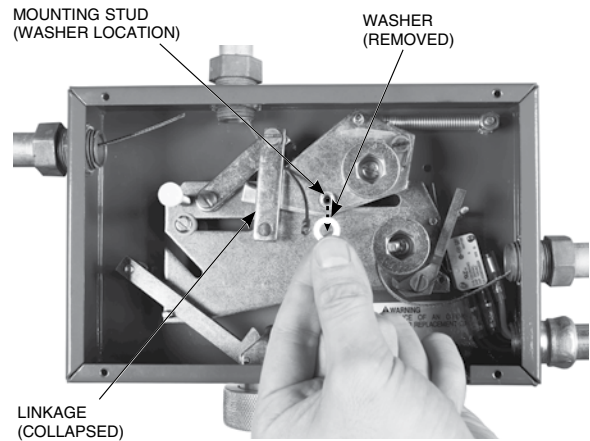

FIGURE 15
10. After the linkage is collapsed, remove the washer from the mounting stud. Dispose of washer. See Figure 15.